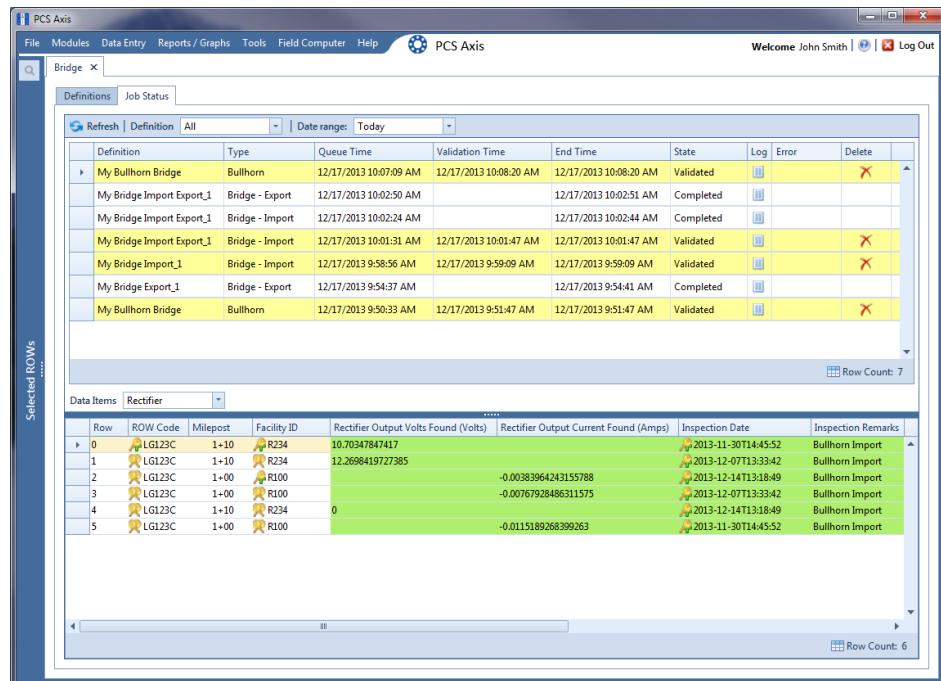

Figure 10-61. Job Status
- 16 To view the status of a Bridge session, click  **Job Status** in the *Definitions* window to open the *Job Status* window (Figure 10-61). Clicking  **Log** for a Bridge session opens the log file for the selected session.